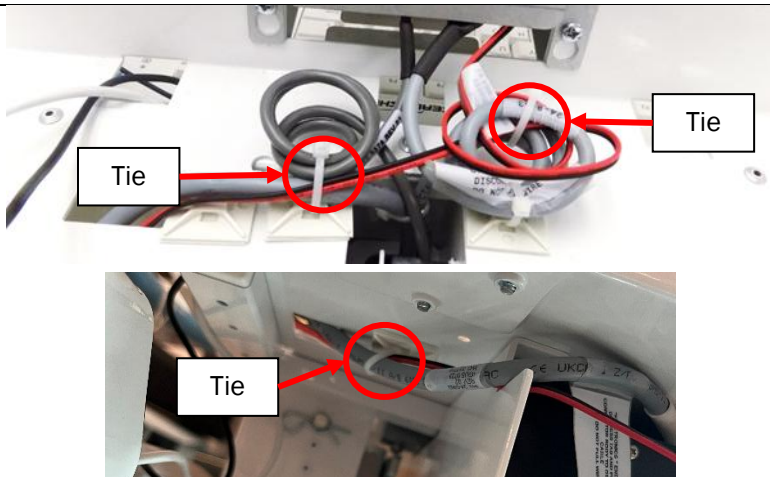

Figure 8: Use Cable Ties to Manage Cables
8. Use cable ties to secure and tidy up the wires as shown in Figure 8.